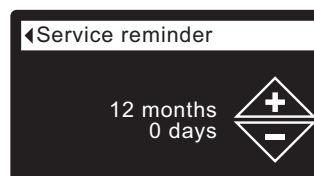

FIG. 94
7. Press the SELECT (O) button to display the Service reminder screen (See Figure 94).